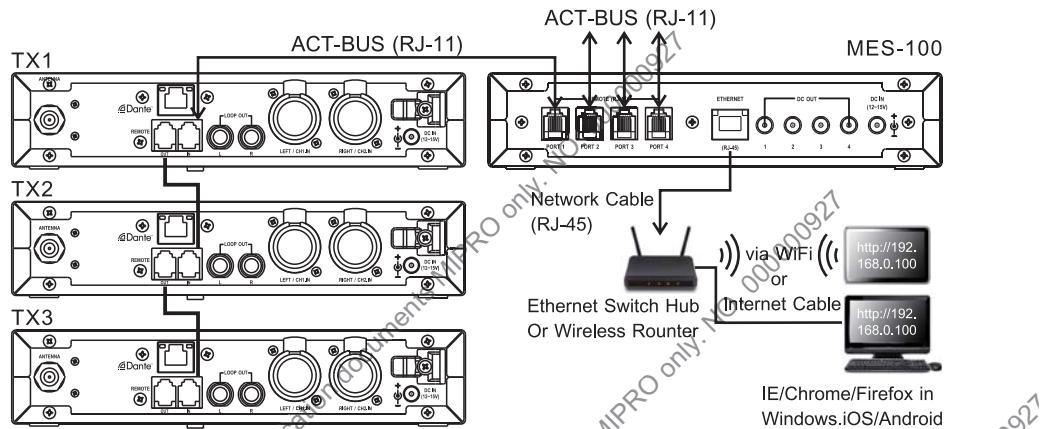

Fig. 20
- (A) Use one RJ-11 cable to connect TX1 and TX2, another RJ-11 to connect TX2 and TX3, and so on, as Fig. 20
- (B) Use an RJ-11 cable to connect TX1 to MES-100.
- (C) Up to 64 transmitters can be linked.
- (D) The recommended cable length of RJ-11 should not exceed 100 m to ensure high-speed transmission quality.